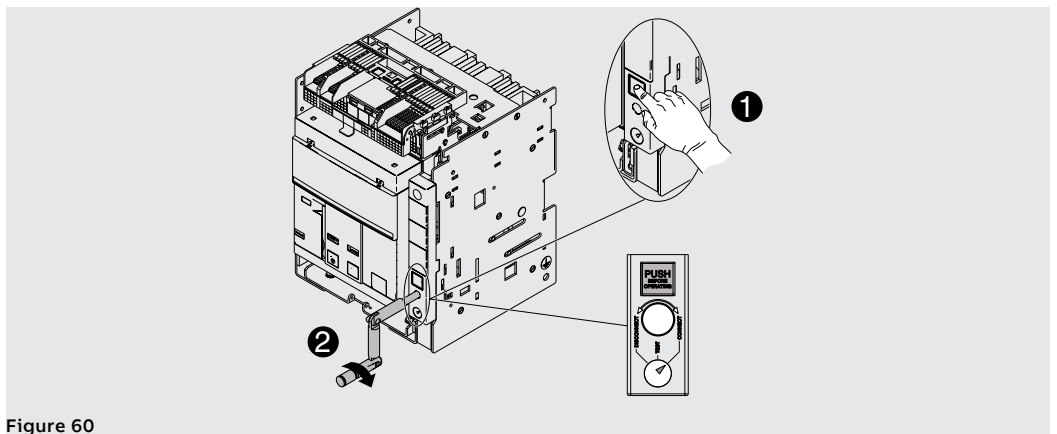

Figure 60
7. Press the lock button and then rotate the crank clockwise until the button comes out and the indicator shows that the circuit-breaker is in the **CONNECT** position. See Figure 60.